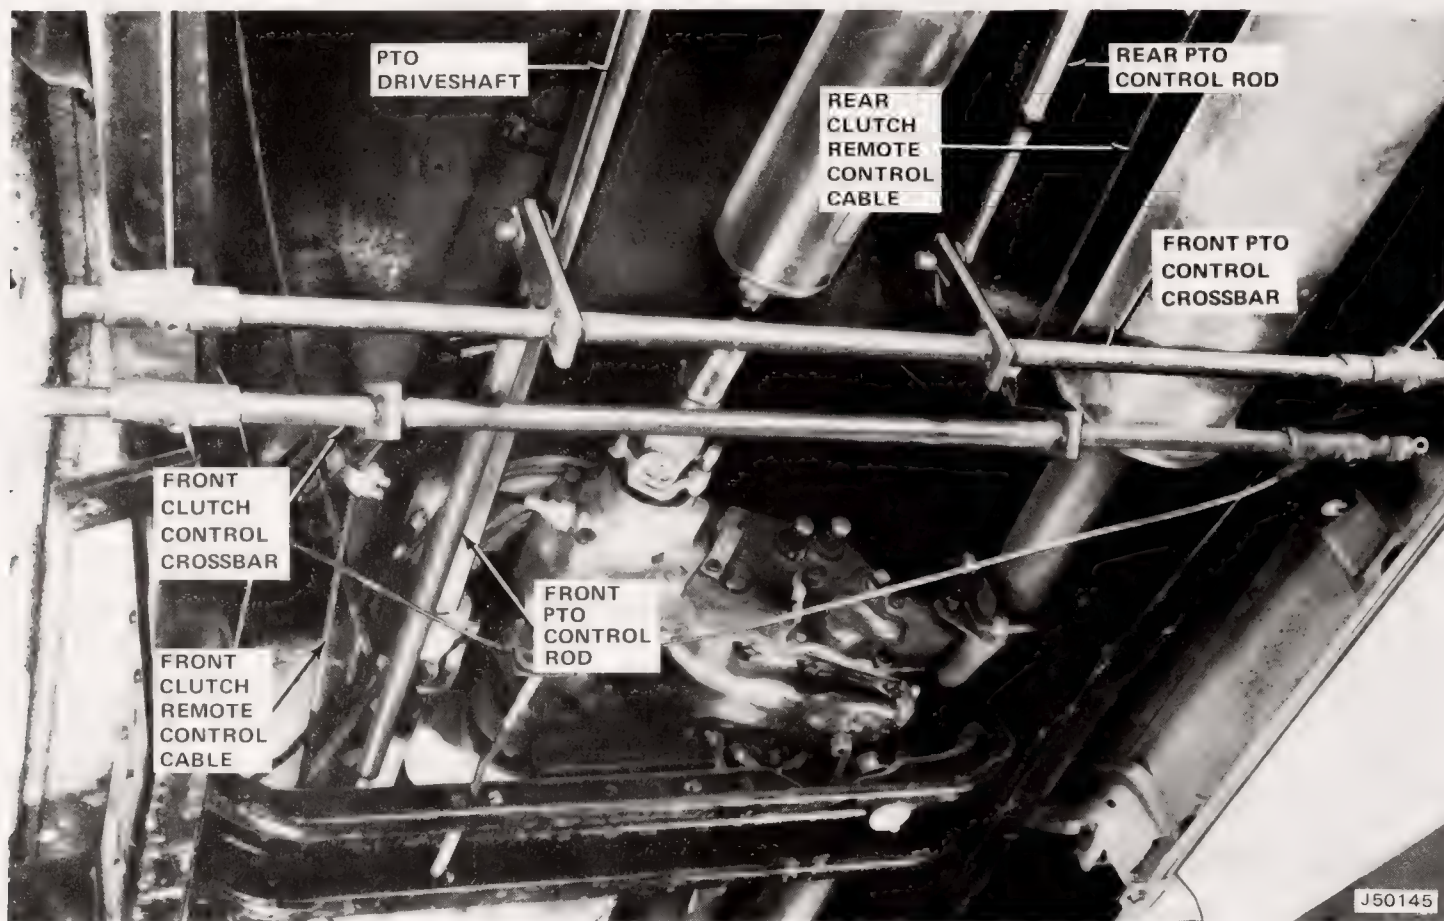

Fig. 10-2 Power Takeoff Installation—Bottom View
(3) Remove drive shaft from power takeoff unit.
(4) Remove U-joint and drive sprocket from hanger bearing unit.
(5) Remove front power takeoff control rod from power takeoff unit and front power takeoff control crossbar (fig. 10-2 and 10-3).